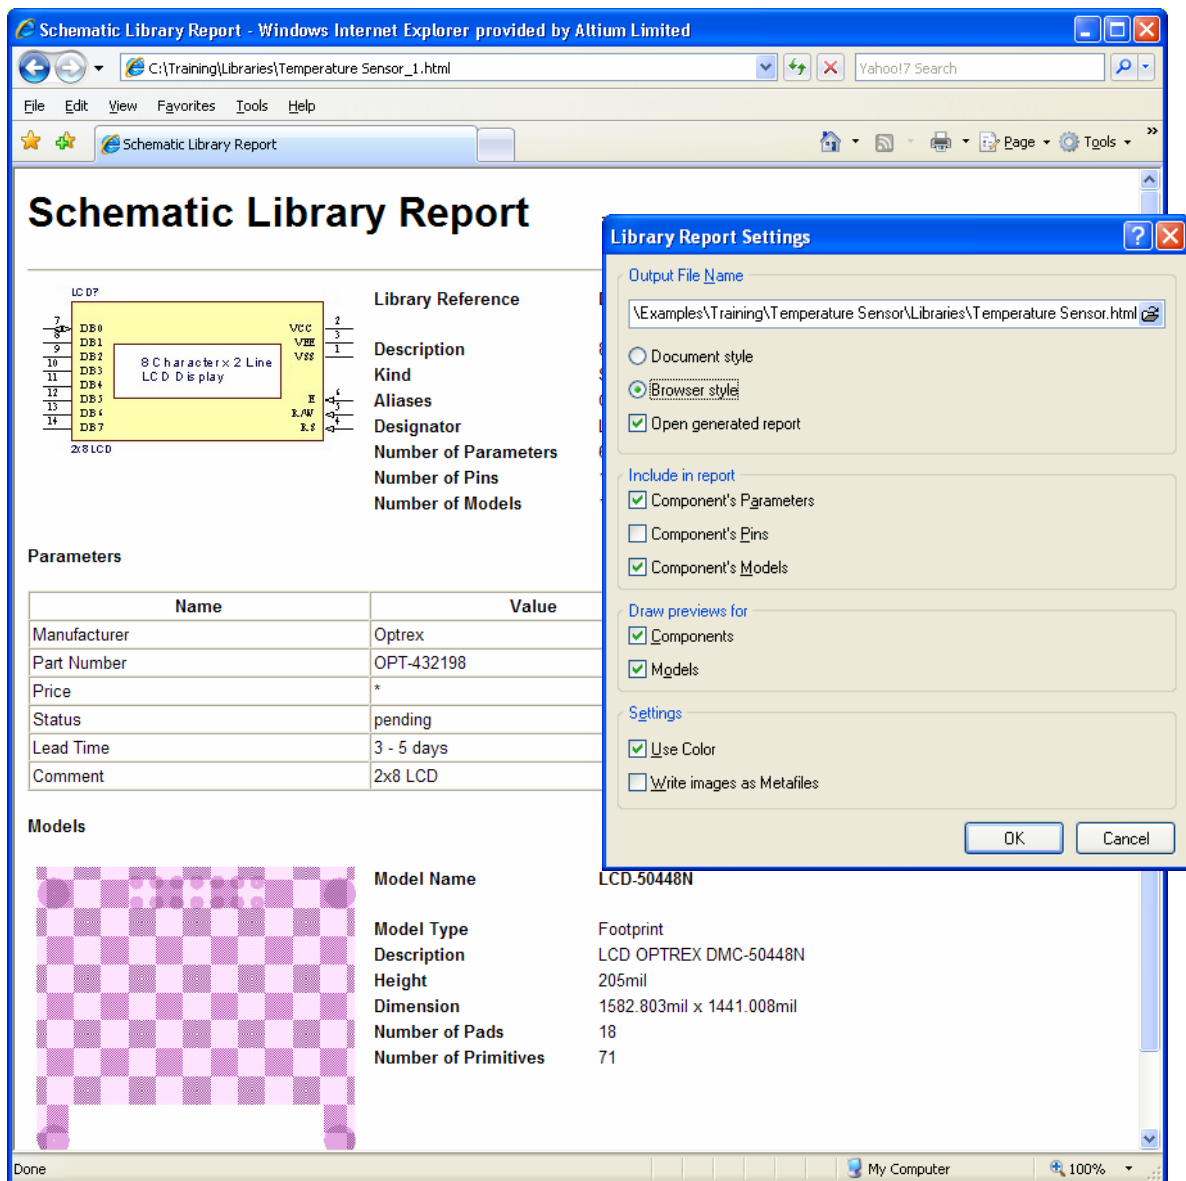

Figure 21. Library report, and the Library Report Settings dialog
- The **Report » Library Report** command presents the Library Report Settings, which allows you to generate either a Microsoft Word® document, or an HTML document. An example report is shown in Figure 21.